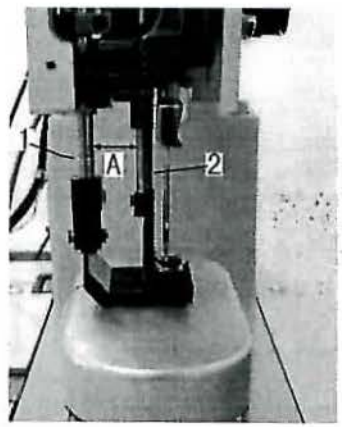

Fig.18
13. RELATIVE POSITION OF VIBRATING AND LIFTING PRESSER BAR, ALSO, OF THE NEEDLE AND THE NEEDLE HOLE OF THE FEEDER (Figs. 18 & 19)